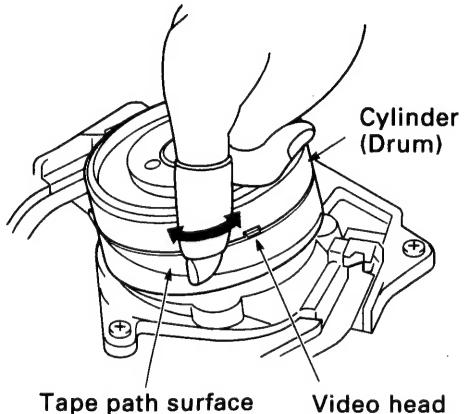

Fig. 1-2-3
1. Cylinder (Drum) (See Fig. 1-2-3)